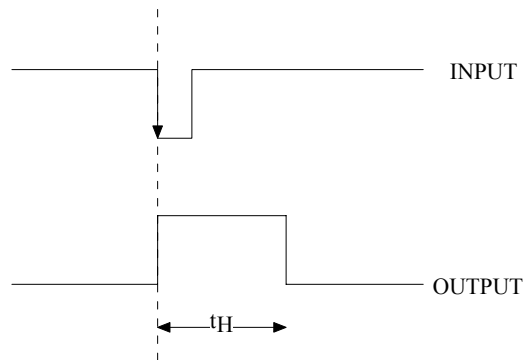

Figure 4. 555 one-shot waveforms
The TRIGGER pulse must be shorter than the desired t_H . A negative going (or falling) input pulse will cause the 555 output to go high as shown in Figure 4. As long as the input pulse is low (for at least 20 nanoseconds), the output is a positive going pulse which will remain high (near the supply voltage) for a time t_H specified by the manufacturer to be approximately given by
7. This should produce a 400 μ s negative going pulse similar to that shown in Figure 4 at the 555's TRIGGER* input.